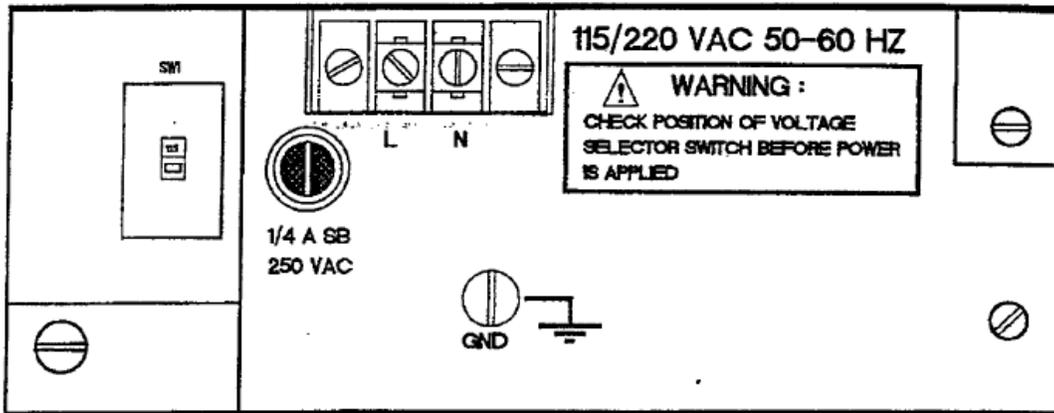

Figure 2-4. AC Power Connections and Fuse.
### 2.3.3 Mains (AC) Power (Figure 2-4)
A screw terminal is provided for permanent transmitter power connection. All units are shipped from the factory configured for 115 VAC operation. To select 230 VAC operation, change SW1 on the base or 'mother' board (see Figure 2-4) to the 230V setting. The unit will operate within specification at 50 or 60 Hz. Before connecting power to the unit, verify that the proper power selection has been made. The two position terminal block is equipped with a clear plastic cover to prevent operator injury. Cable can be either solid or stranded 12 or 14 gage with a ground conductor.